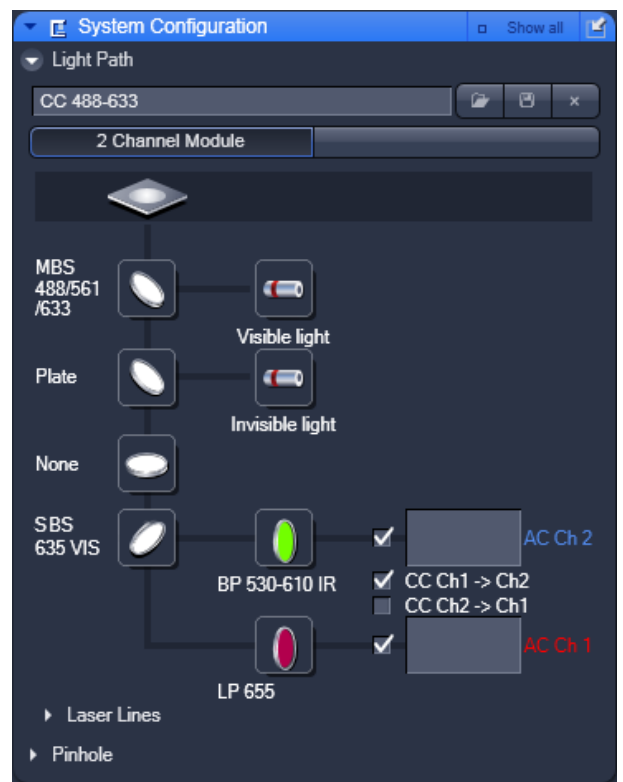

Fig. 23 System Configuration tab - Light Path panel opened for the "2 Channel Module" ConfoCor 3
- Click on the **Light Path** tab to open the **Light Path** configuration panel (Fig. 23). Click on any other register to leave the panel.